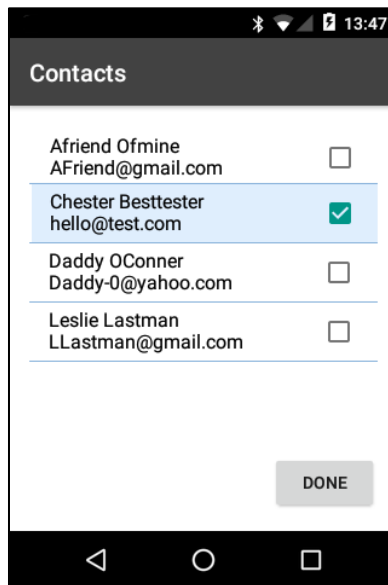

Figure 22: Compose and Select Contact Option
1. Tap the **Contacts** field. Contacts which have been entered in the SHOUT App appear in alphabetical order, as shown in **Figure 22**.